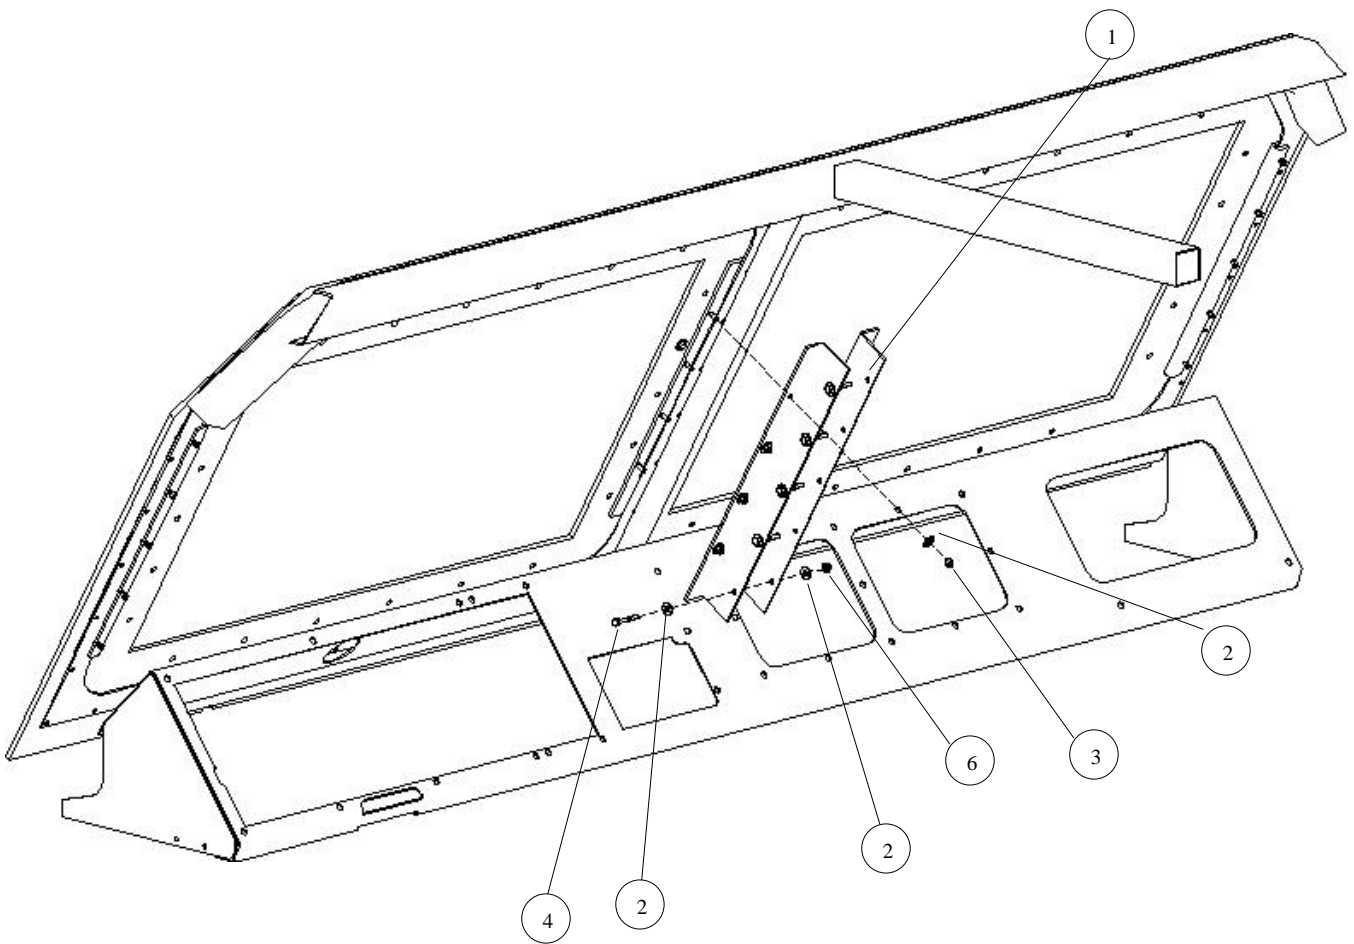

Figure 3-7. Install Windshield Clamp Brackets.
6. Install windshield clamp brackets as follows (see Figure 3-7):
- a. Install two windshield clamp brackets (1) onto inside row of studs on windshield stud plate mounted on center post of windshield and secure each with four flat washers (2) and locknuts (3). Torque locknuts to 7 lb-ft.
- b. Install five bolts (4), ten flat washers (5), and five locknuts (6). Torque locknuts to 9 lb-ft.